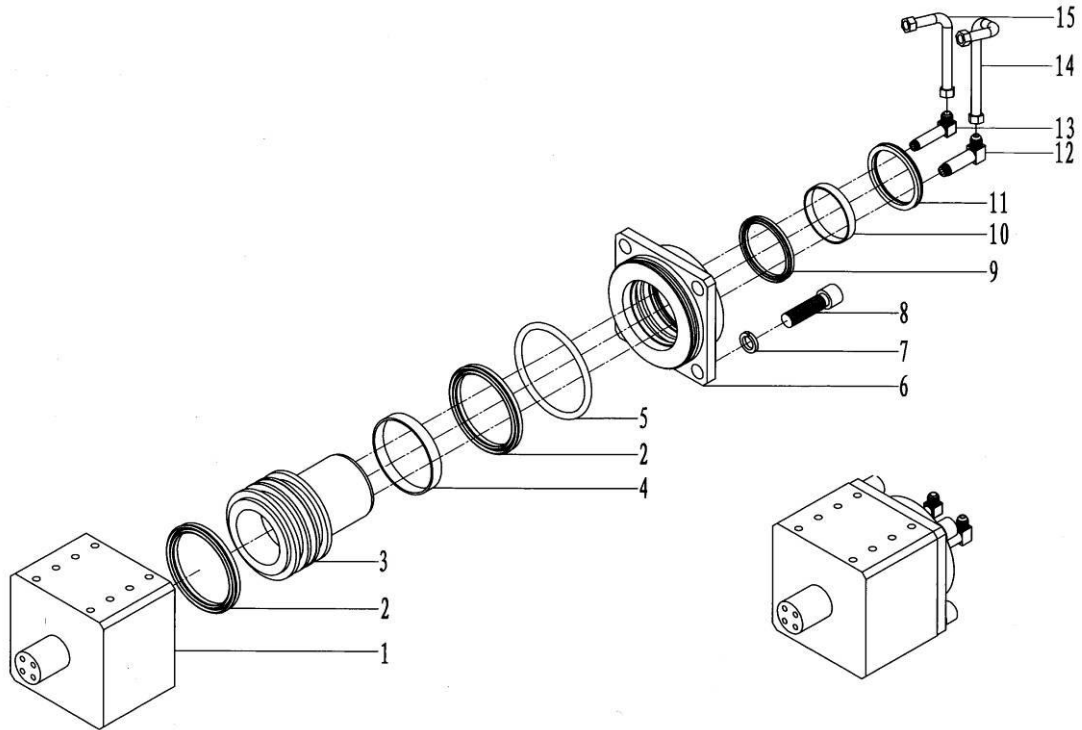

Fig. 28
7.2.2 Clamping cylinder assembly (Fig.28, Table.23)